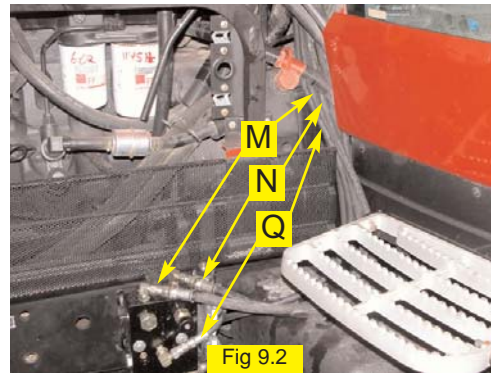

Fig 9.2
Install the pressure (N) and tank (M) hydraulic hoses between the P and T ports of the hydraulic control block and the corresponding run-tees installed in step 6. (Figure 9.2) Double check to make certain that the connections are not reversed.